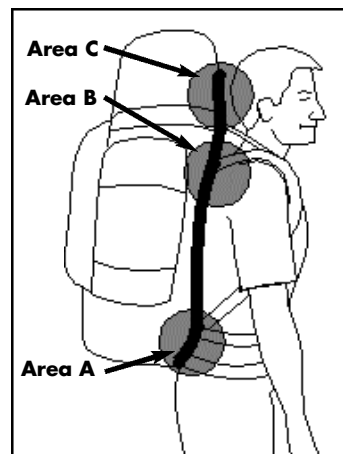

Figure 13
7. When the pack fits as seen in Figure 5 (page 4), walk around and notice how the pack feels against your back. The pack should contour to your back as in Figure 13. Use the short evaluation below to ensure a great fit. Make certain to take notice of any pressure points and trouble shoot them in the next section.